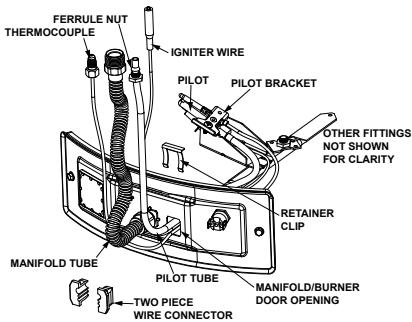

FIGURE 34.
2. Lift the retainer clip straight up from the back of the two piece wire connector (using a flat-blade screwdriver), then remove the two piece wire connector from the manifold door (Figure 34.)
- Position the new thermocouple through the bottom opening of the two piece wire connector (Figure 34). Be sure igniter wire is positioned through the small opening of the two piece wire connector.
- Lift the retainer clip straight up from the back of the two piece wire connector (using a flat-blade screwdriver), then remove the two piece wire connector from the manifold door (Figure 34.)
- Route the new pilot tube, thermocouple, and igniter wire through the manifold/burner door opening. (Figure 34)
- Carefully bend the new pilot tube and thermocouple to match the bend of the manifold tube. **NOTE:** When bending, **DO NOT** crimp or crease the pilot tube or thermocouple. (Figure 34)